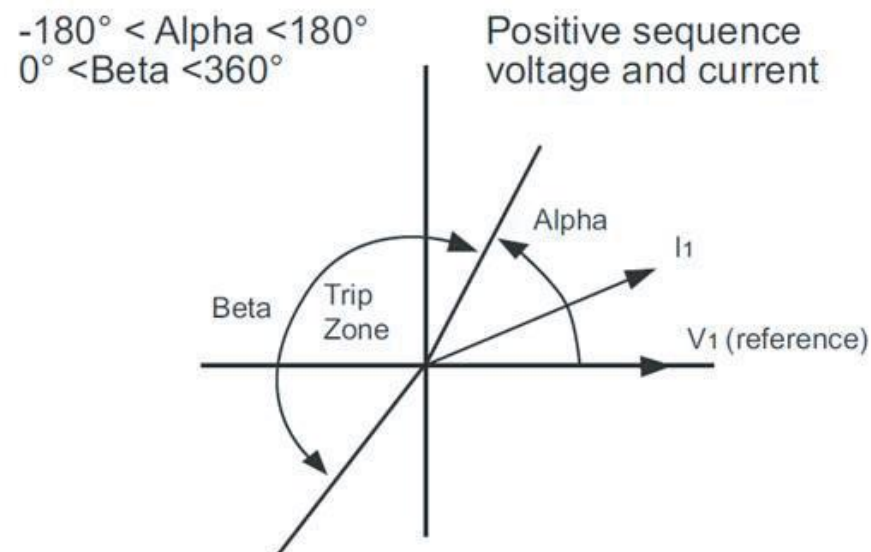

Figure 1
- Figure 1 shows boundaries of the Alpha and Beta: